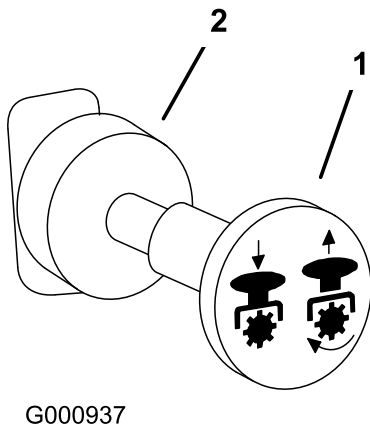

Figure 14
3. Move the PTO (power take off) switch to the Off position (Figure 14).
1. Push the PTO to the off position (Figure 14).